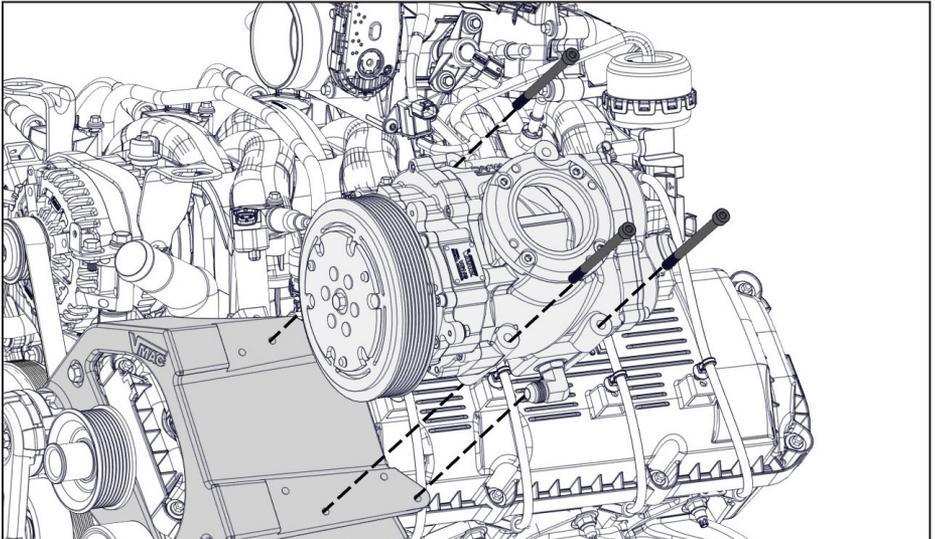

Figure 20 — Mount compressor
- Position the compressor on the mounting bracket and secure it using the (x3) supplied bolts (Figure 20).